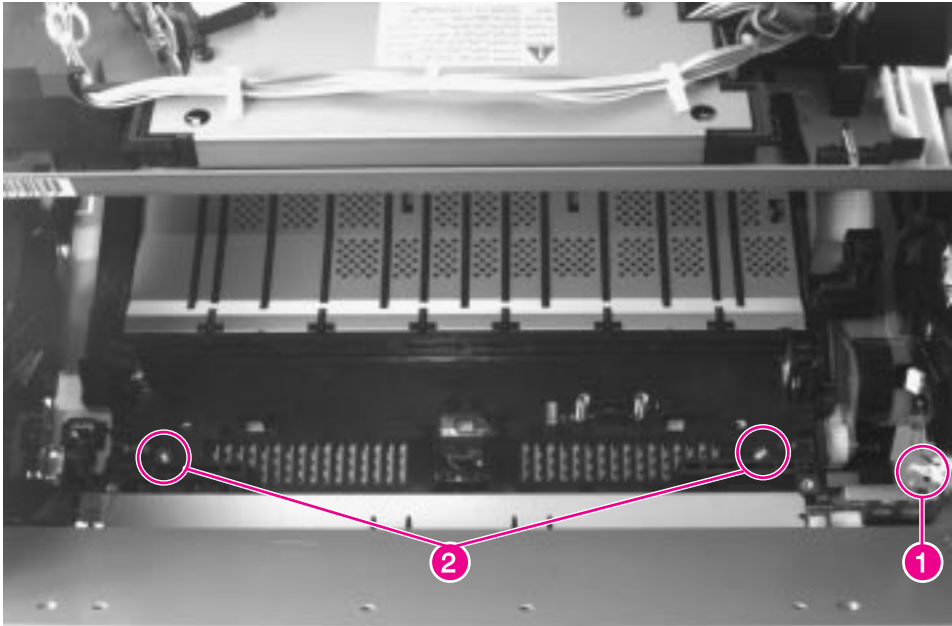

Figure 6-23 Feeder Assembly (1 of 2)
- 6 Unplug the sensor cable at the right side of the Feeder Assembly (figure 6-23, callout 1).
- 7 Remove 2 screws at the front of the Feeder Assembly (figure 6-23, callout 2).